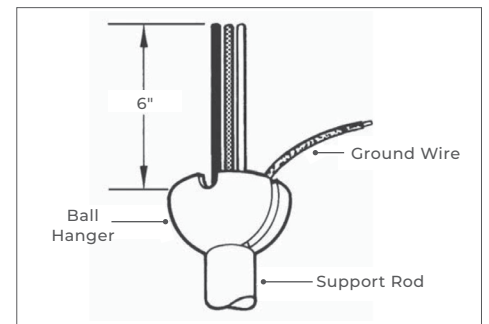

FIGURE 11
C) Trim the lead wires, leaving about 6 inches of each wire extending from the support rod. (Figure 11)